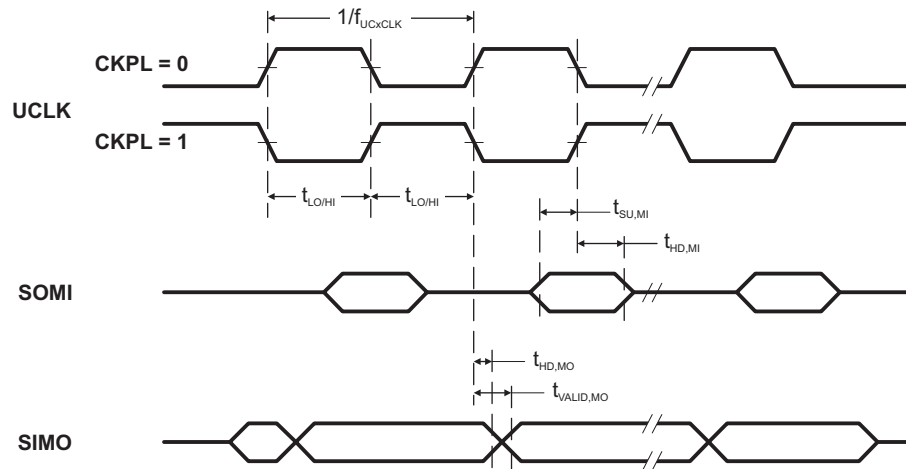
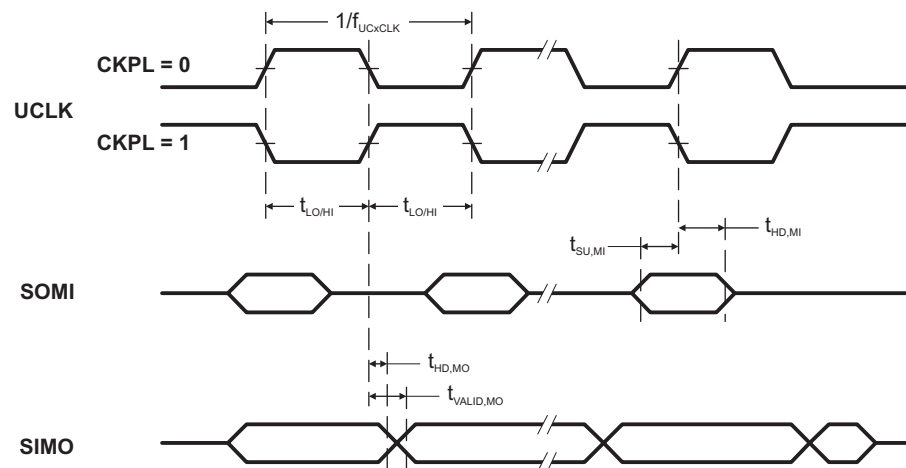

Figure 15. SPI Master Mode, CKPH = 0
Figure 16. SPI Master Mode, CKPH = 1
(see Note ⁽¹⁾, Figure 15 and Figure 16)
- (1) f_{UCxCLK} = 1/2t_{LO/HI} with t_{LO/HI} ≥ max(t_{VALID,MO}(USCI) + t_{SU,SI}(Slave), t_{SU,MI}(USCI) + t_{VALID,SO}(Slave)). For the slave's parameters t_{SU,SI}(Slave) and t_{VALID,SO}(Slave) see the SPI parameters of the attached slave.
- (2) Specifies the time to drive the next valid data to the SIMO output after the output changing UCLK clock edge. See the timing diagrams in Figure 15 and Figure 16.
- (3) Specifies how long data on the SIMO output is valid after the output changing UCLK clock edge. Negative values indicate that the data on the SIMO output can become invalid before the output changing clock edge observed on UCLK. See the timing diagrams in Figure 15 and Figure 16.
(1) $f_{UCXCLK} = 1/2t_{LO/HI}$ with $t_{LO/HI} \geq \max(t_{VALID,MO(Master)} + t_{SU,SI(USCI)}, t_{SU,MI(Master)} + t_{VALID,SO(USCI)})$.For the master's parameters $t_{SU,MI(Master)}$ and $t_{VALID,MO(Master)}$ see the SPI parameters of the attached master.(2) Specifies the time to drive the next valid data to the SOMI output after the output changing UCLK clock edge. See the timing diagrams in Figure 15 and Figure 16.(3) Specifies how long data on the SOMI output is valid after the output changing UCLK clock edge. See the timing diagrams in Figure 15 and Figure 16.